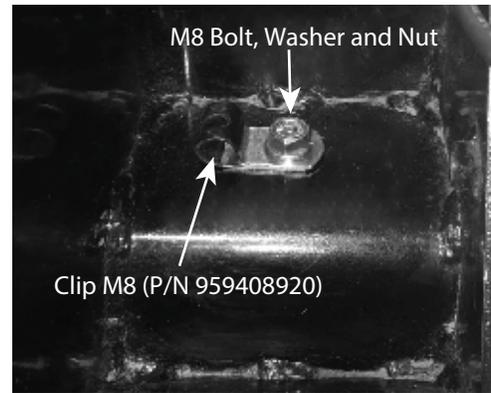

Figure 48. Secure Clip M8
- Secure the clip M8 (P/N 959408920) with bolt, washer and nut on the lower right side of back of rear cover. See Figure 48.